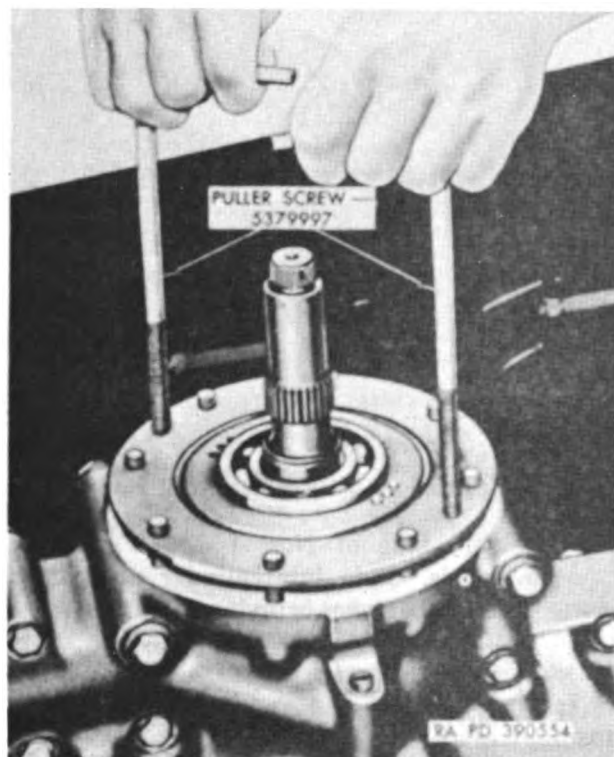

Figure 50. Removing fan drive vertical drive shaft bearing housing.
b. Remove Fan Drive Vertical Drive Shaft Bearing Housing. Remove fan drive vertical drive shaft bearing housing, with attached drive shaft and ball bearing, from crankcase with two puller screws 5379997 (fig. 50).
- (1) Lift fan drive vertical drive shaft driven gear from the fan drive recess in top of crankcase. Slip fan drive vertical drive shaft drive gear from its bearing in crankcase.
- (2) Unscrew fan drive horizontal drive shaft hose nipple from vertical drive shaft gear bearing. Remove and discard gasket.
- (3) Remove cotter pin, slotted hex nut, and flat washer securing fan tower